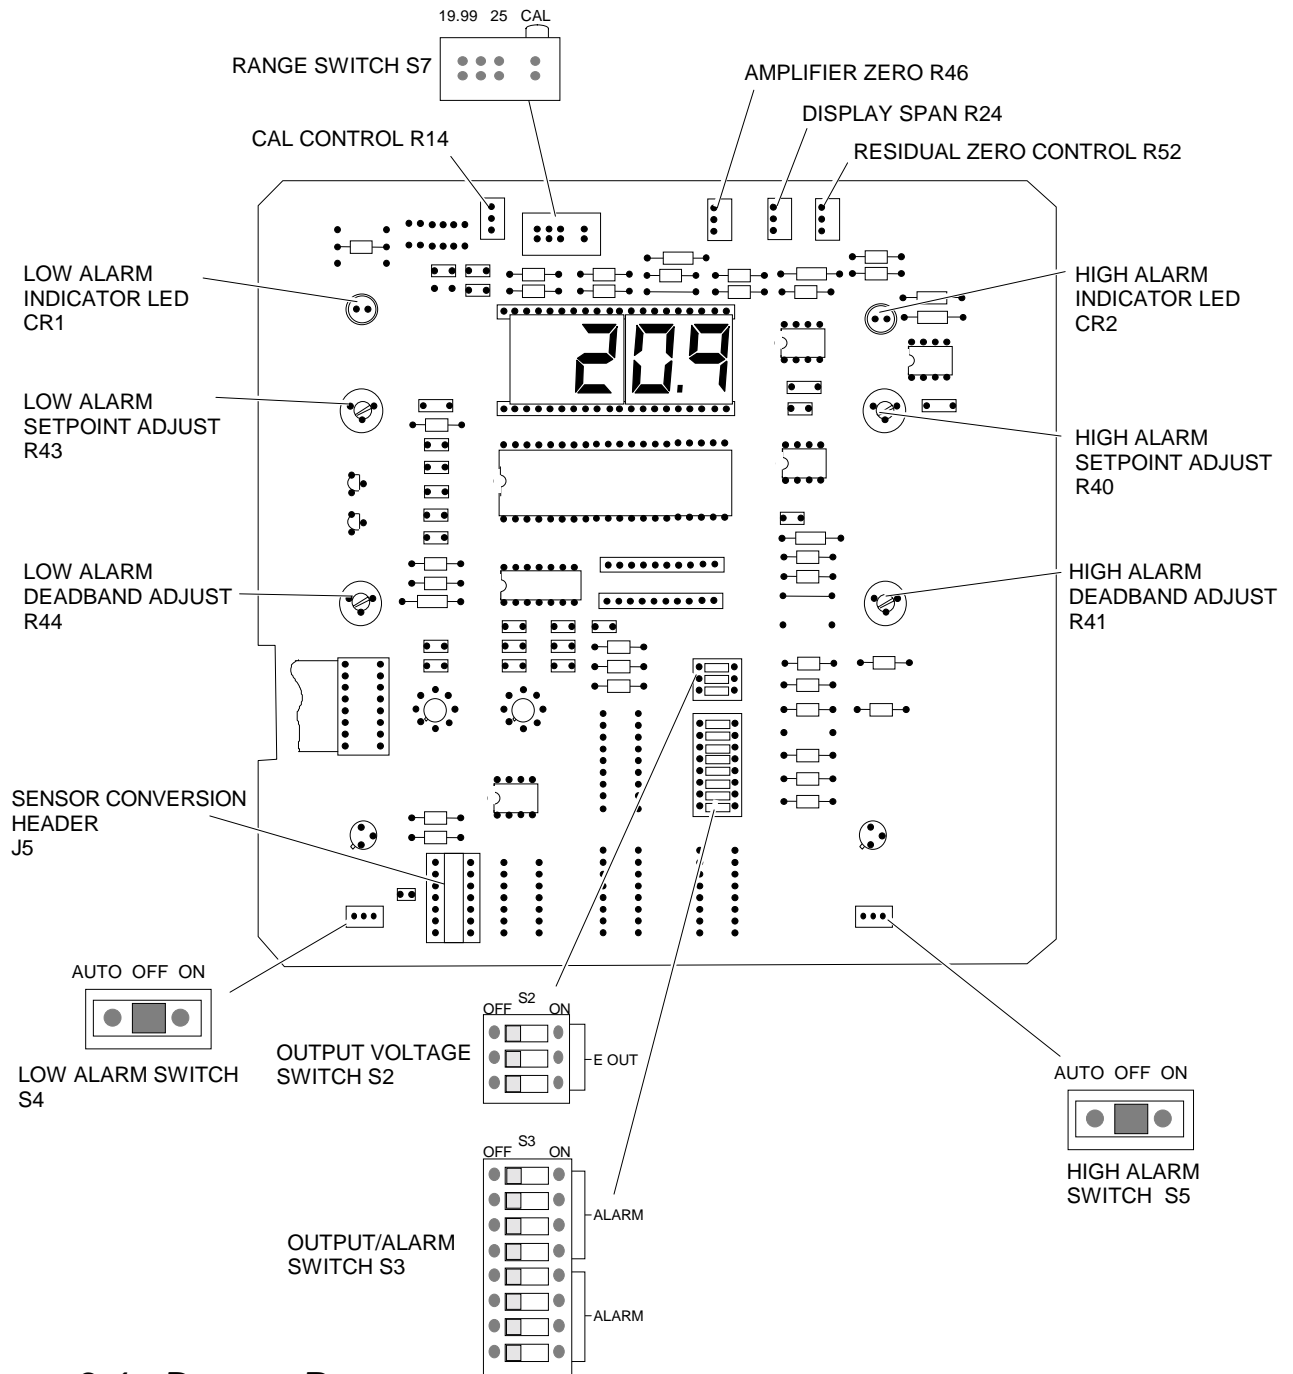

FIGURE 3-1. DISPLAY BOARD
Prior to startup and calibration, familiarization with Figure 3-1 is recommended. This figure gives locations and brief descriptions of operating controls and adjustments on the display board.
1. On the Display Board (refer to diagram inside door and Figure 3-1):
1. On the Display Board (Figure 3-1), set RANGE switch S7 to CAL position.
3. Turn power ON. On the Display Board (Figure 3-1), adjust residual ZERO control R52 until potentiometric output device indicates 0 volt.